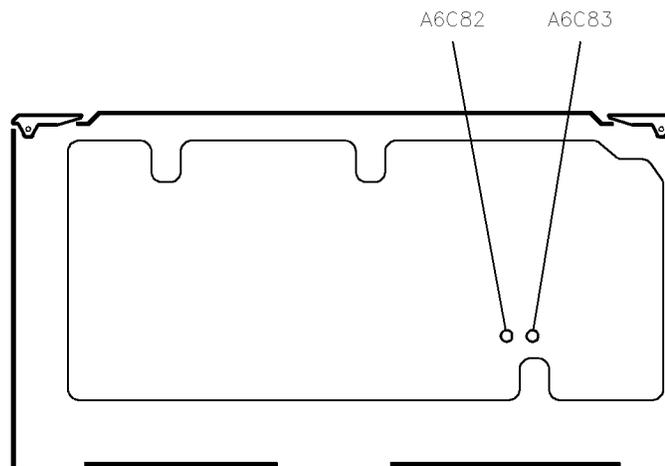

Figure 3-8. Sampler Match Adjustment Locations
9. Adjust A6C82 and A6C83 (Figure 3-8) for best overall sampler match.